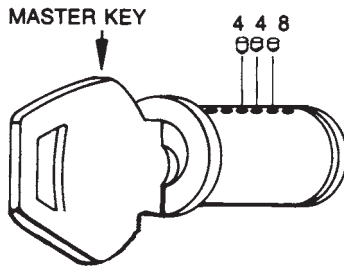

Figure 9.21 Subtract the change-key combination from the master key combination. The difference represents the length of the master pins. (*Emhart Corp.*)
12. Install the appropriate master pins (Fig. 9.21).